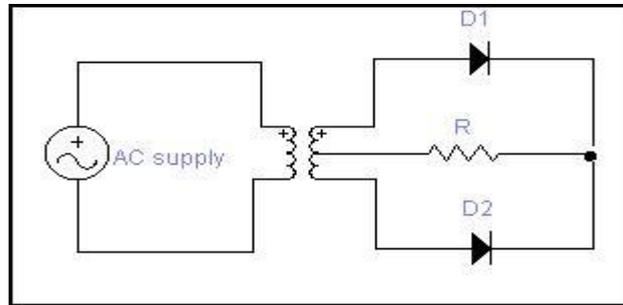

Fig. 1.26 Centre tapped full-wave rectifier
- The circuit diagram of a center tapped full wave rectifier is shown in fig. 1.26 above. It employs two diodes and a center tap transformer. The a.c. signal to be rectified is applied to the primary of the transformer and the d.c. output is taken across the load R_L .